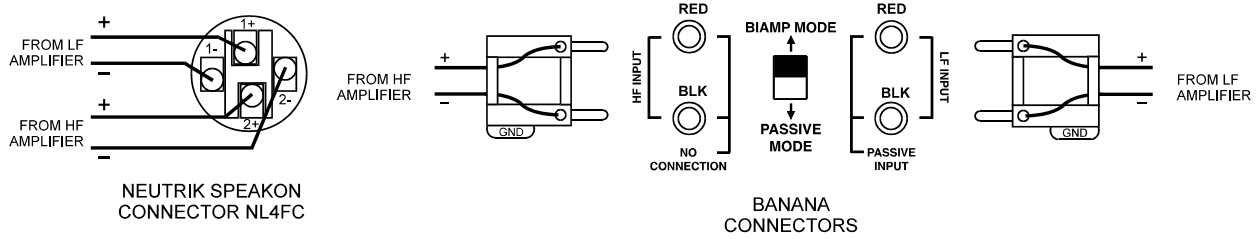

FIGURE 5: WIRING FOR SLS IN BIAMPLIFIED MODE
10.5.2 SLS BIAMPLIFIED MODE OPERATION (SEE FIGURE 5)